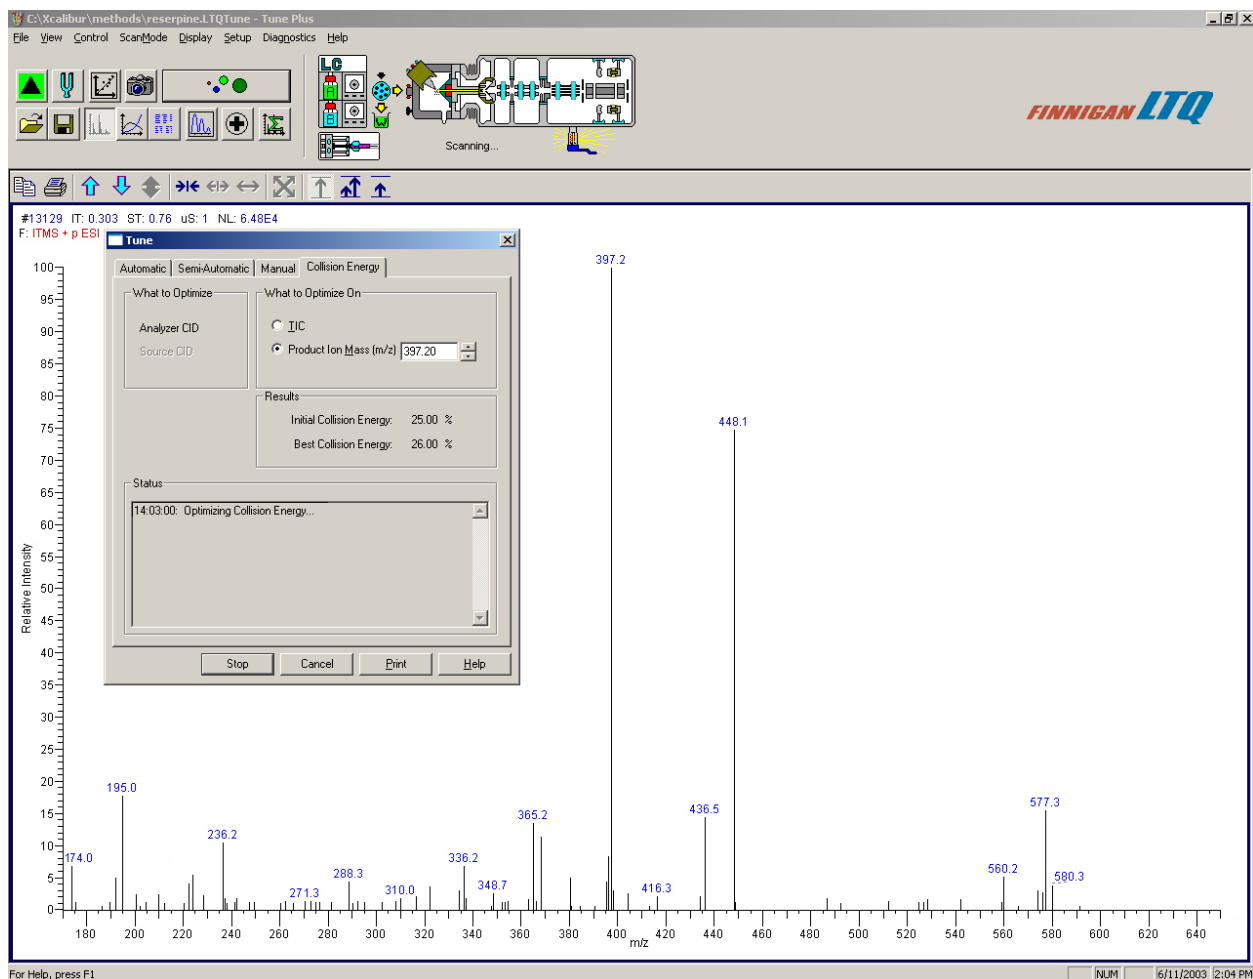

Figure 5-5. Tune Plus window, showing MS/MS product ions of reserpine in the Spectrum view
2. Click on **OK** to close the message box, and leave the Tune dialog box open. Your Tune Plus window should now look similar to the one shown in Figure 5-5.